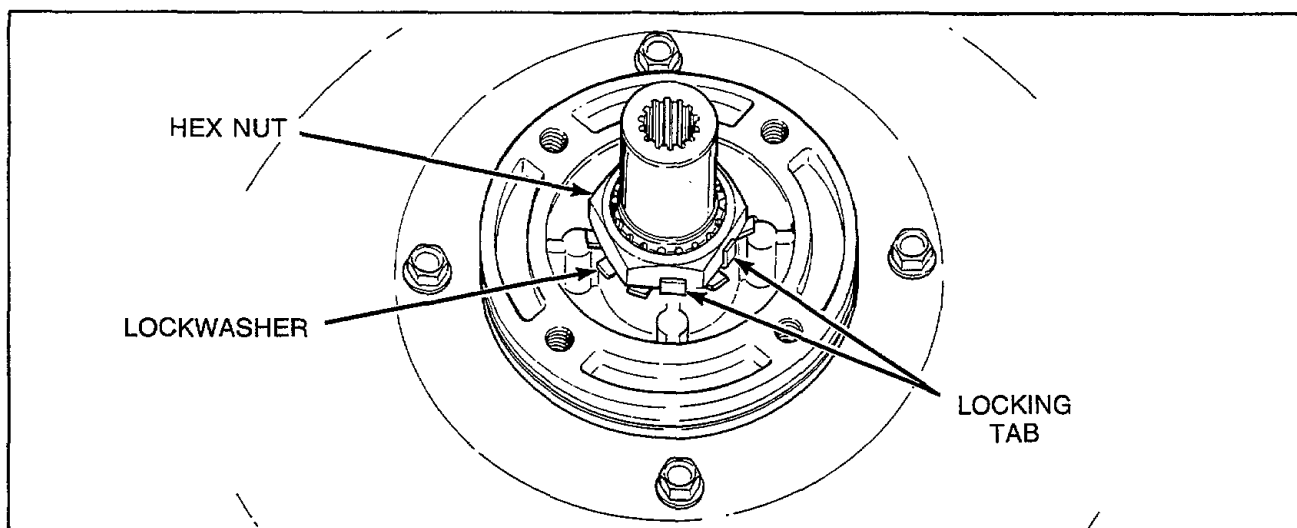

Figure 24
- h. Straighten bent tab(s) on lockwasher, *Figure 24*, then remove hex nut using No. 237P4 Hex Wrench.
IMPORTANT: Torque locknut down between 40 to 70 foot pounds (54.23 to 94.91 N-m). If a torque wrench is not available, tap hex wrench with a hammer until hub turns or until nut will no longer tighten. After nut has been tightened, bend at least two locking tabs on lockwasher into place on hex nut, *Figure 24*.
- i. Straighten bent tab(s) on lockwasher, *Figure 24*, then remove hex nut using No. 237P4 Hex Wrench.